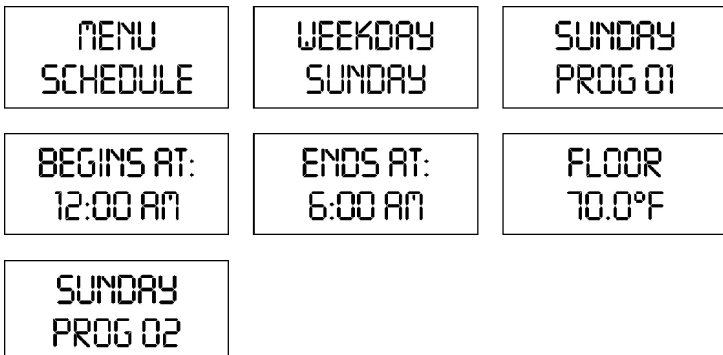

Figure 5
a) At 'Schedule' hit **Enter/Menu**. You will see 'Weekday Sunday'. Press **Enter/Menu**, to see 'Sunday Prog 1'. Press **Enter/Menu** again and set the desired time and temperature. The screen will show 'Pgm Always Starts at 12:00AM'. Press **Enter/Menu**. This brings you to the 'Ends At' screen - modify the time, then press **Enter/Menu** which brings you to temperature 'floor...(°C)'. Change to desired temperature using the **Up** or **Down** arrows. Press **Enter/Menu**. See Figure 5. Repeat until 'Program 05' is reached or until you reach 11:59PM. Once you have finished programming, press **Cancel/Occ**. This will return you to 'Menu Schedule'. Press the **Down** arrow to go to 'Menu Copy Days'.